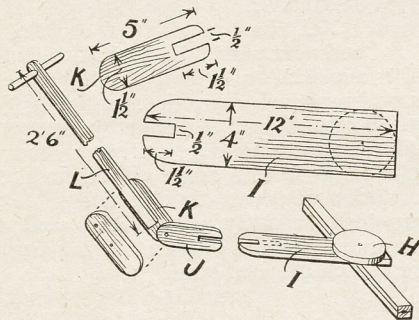

Fig. 4—Lettered parts of the framework
In Fig. 4 is shown the positions of the various parts of the cart and how they are fitted, the near side of course, is omitted.
There will be wanted two pieces of (H) both preferably of hard wood. The second piece is attached to the handle board (I) seen in Fig. 4 with the front axle also fixed to it.
All the necessary measurements for marking out and cutting the handle board (I) to which is afterwards attached one of the turntable pieces, is given in Fig. 4. To this board is also fixed the pivot piece (J) which slots between the two pieces (K) on the handle.
The three pieces (J and K) are similar in outline, but (J) only has a slot which is let into (I) as indicated. The measurements for (J and K) are given in Fig. 4, as is the handle with the pieces attached.